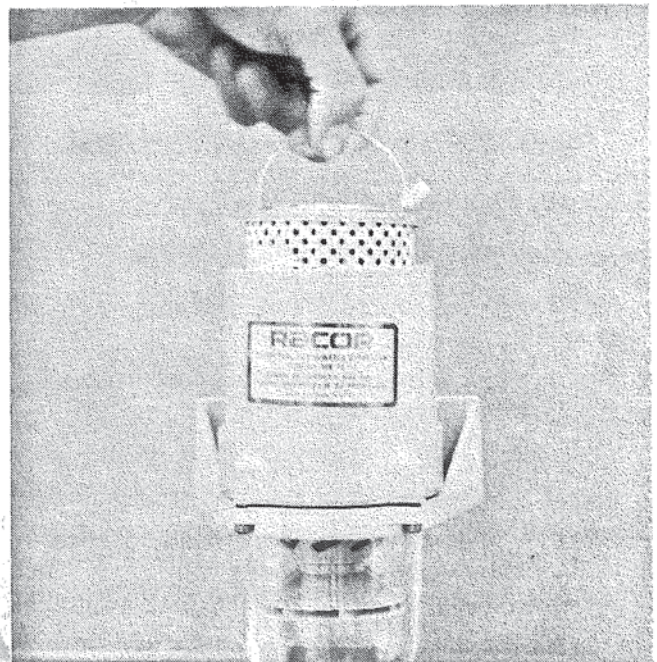

Figure 15. Removing Element.
2. Grip element back and remove element. Figure 15.